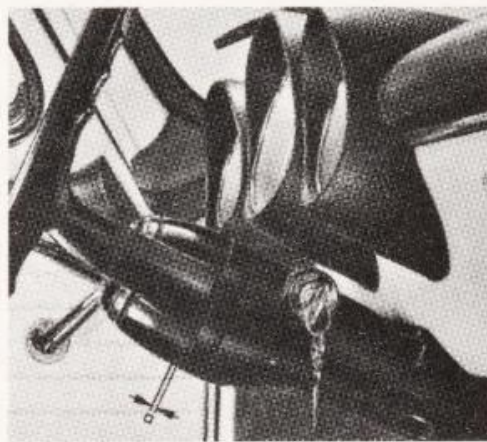

Fig. C-32. Clearance at steering wheel hub must be at least .04 in. on early Fastback and Squareback models.
- 6 - Distance between upper edge of direction indicator switch and lower edge of steering column hub must be at least 0.08 in. on older models, at least 0.04 in. on 1960 and later models, Fig. C-32.